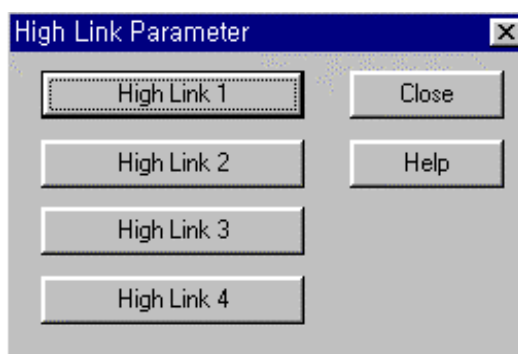

Fig. 6.2.4(B) Base screen of *high speed link* parameter
(2) **Setting function** : *High speed link* 1~4 items of Fig. 6.2.4(B) means max. number of mountable communication modules according to PLC CPU type. GLOFA GM1/GM2/GM3 CPU are mountable up to 4 units, and GLOFA GM4 is up to 2 units.